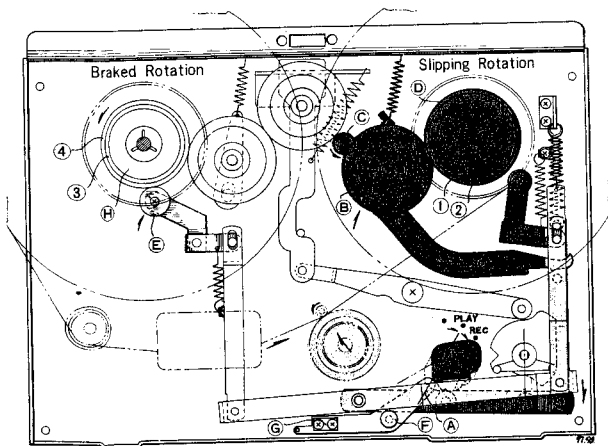

Fig. 2
Turn the RECORD/PLAYBACK KNOB (A) to "PLAY" position, and pinch wheel presses against capstan to move tape at the rated speed. At the same time, *Idler* (B) moves between *Motor Bushing* (C) and the *Take-Up Reel Spindle* (D) to transmit the motor rotation to (D) so that the tape is moved and wound on the take-up reel. The Take-up Reel Spindle Base is made up of two plastic rollers (1 and 2) with a clutch felt in between. The Idler is rotating the plastic roller (2) underneath. Therefore, the tape-winding friction is adjusted by the slipping of the felt to maintain rated winding of the tape. On the other hand, the *Supply Reel Spindle* (H) has a *Brake Roller* (E) hung on the Plastic Roller (4) underneath, which provides appropriate back tension by the felt clutch slipping to the rotation of the Pulley (3) above. To prevent accidental erasure, the *Record Interlock Button* (F) must be depressed before the RECORD/PLAYBACK KNOB can be moved to the "REC" position. The *Safety device* (G) is depressed to operate the recording mechanism. (See figure 2)